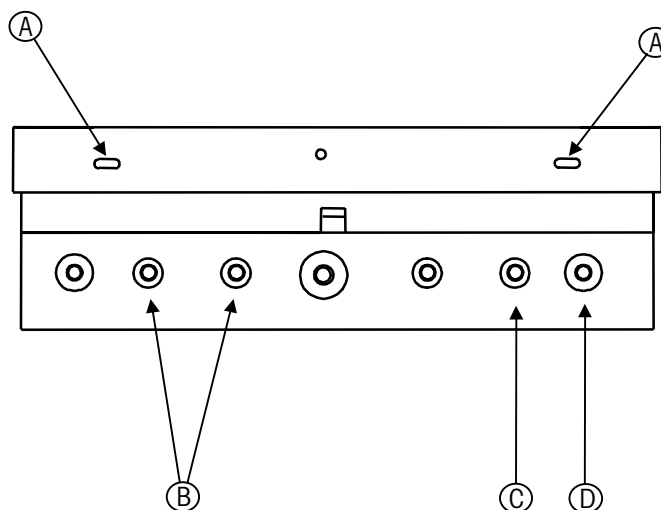

Figure 2-1: Cougar Terminal Access and Connections
- Insert the tip of a flat-blade screwdriver into one of the two slots (A) located on the bottom of the front panel assembly (see Figure 2-1) and gently push in toward the enclosure. Push in on the side of the slot farthest from the front face of the cover. You should hear a quiet pop when the cover is released.